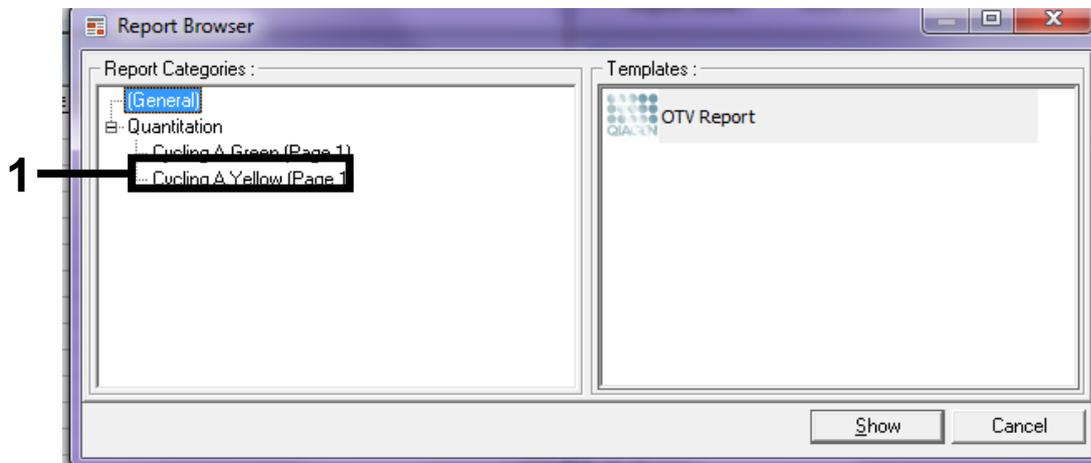

Figure 37. Report browser. (1 = “Cycling A. Green (Page 1)” button).
10. In the report browser, click “Cycling A Green (page 1)” under “Report Categories” (Figure 37).